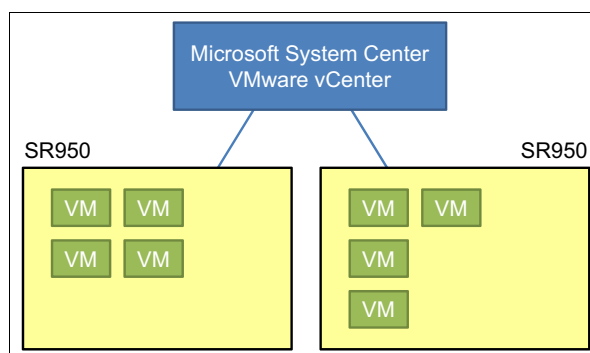

Figure 7-20 Start a firmware update with upward integration module (UIM)
1. The user starts an update, as shown in Figure 7-20.